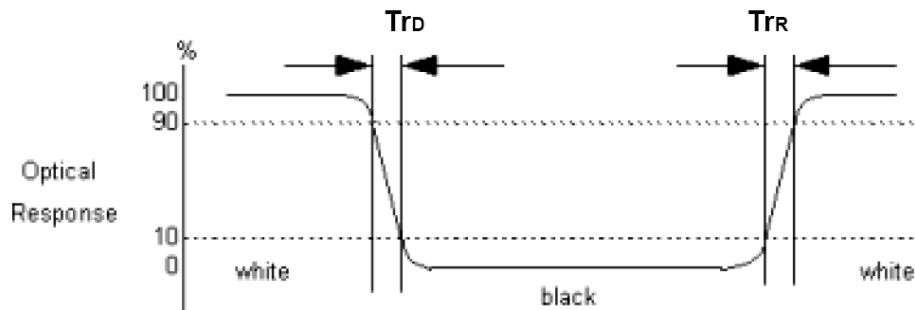

**Fig.4-2 Optical measurement point**
2. Surface luminance is luminance value at point 1 across the LCD surface 50cm from the surface with all pixels displaying white. From more information see Fig. 4-2. When  $V_{\text{DDB}} = 24\text{V}$ ,  $I_{\text{DDB}} = 7.5 \text{ A}$ .  $L_{\text{WH}}=L_{\text{on1}}$ , Where  $L_{\text{on1}}$  is the luminance with all pixels displaying white at center 1 location.